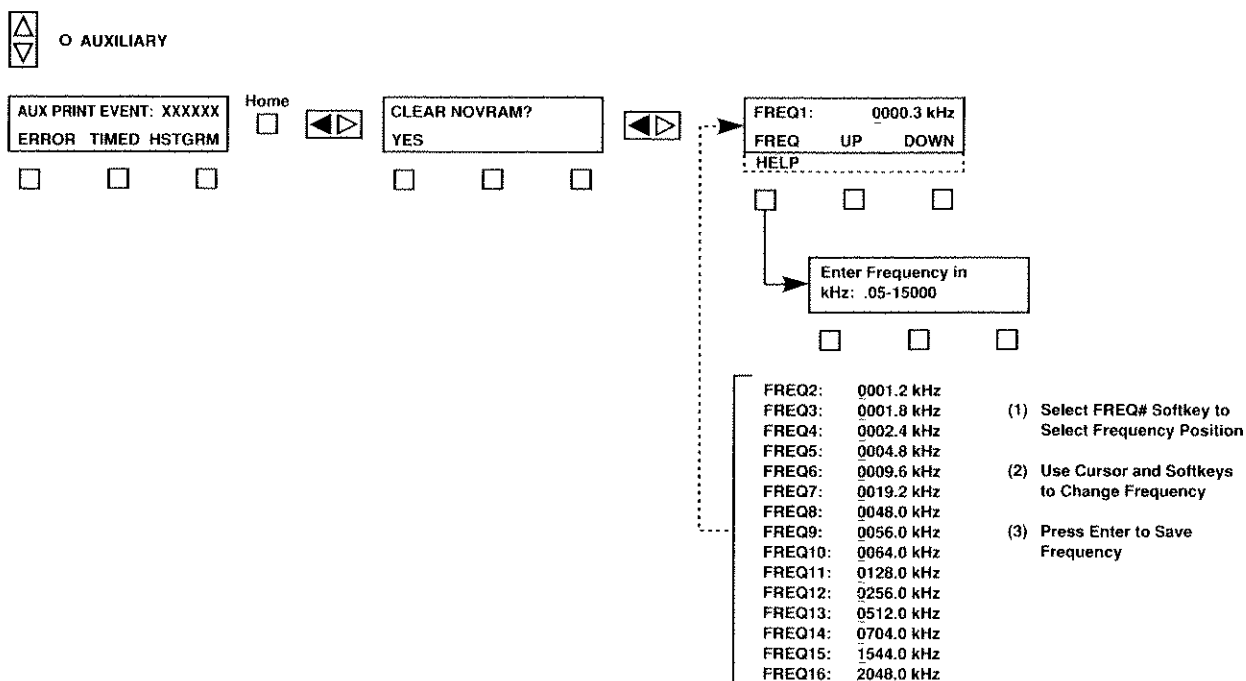

Figure 2-14
All fixed frequencies in the INTERNAL FREQ menu, listed under the GENERATOR CLOCK category, can be changed from the Optional Auxiliary Fixed Frequency Editor menu (FREQ). The menu is only available when the optional frequency synthesizer is installed. It is used to re-order the fixed internal frequencies or change them to application-specific frequencies. Figure 2-14 shows how to access the FREQ menu.
1. Select the AUXILIARY category. If necessary, press the HOME key, then press the left SETUP SELECT arrow switch until the Auxiliary Frequency menu appears (see Figure 2-14).